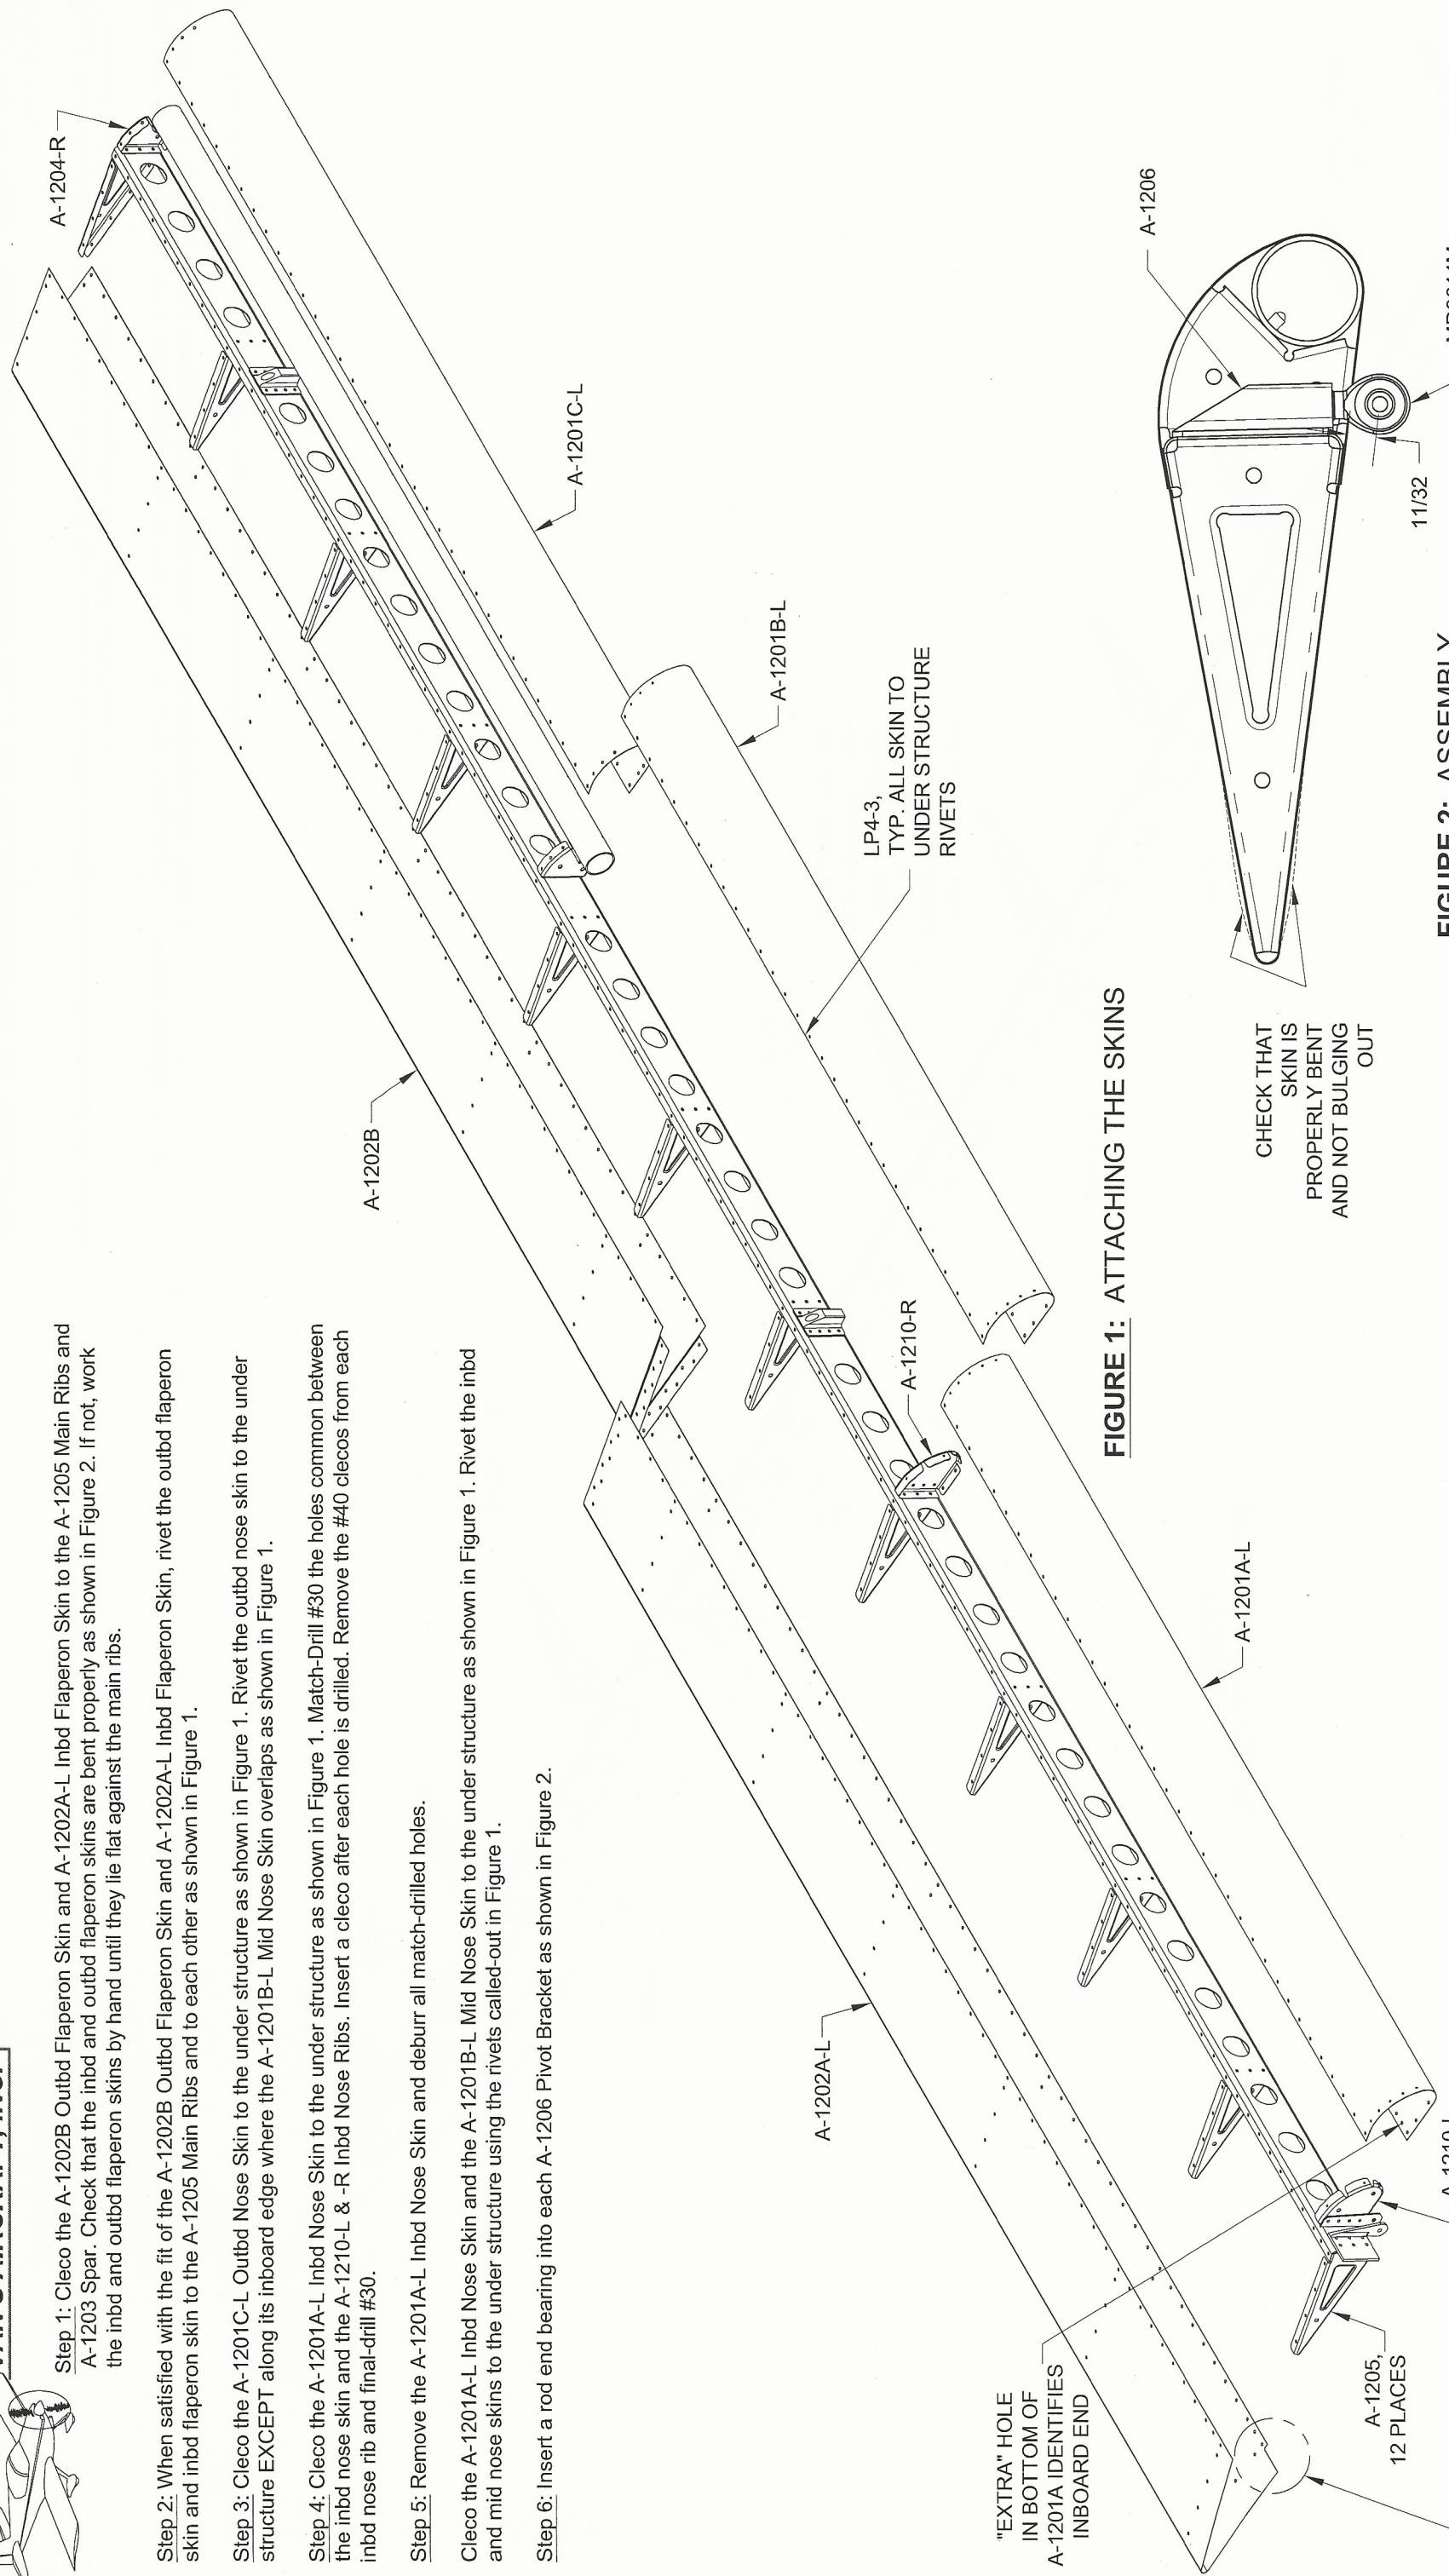

FIGURE 1: ATTACHING THE SKINS
Step 2: When satisfied with the fit of the A-1202B Outbd Flaperon Skin and A-1202A-L Inbd Flaperon Skin, rivet the outbd flaperon skin and inbd flaperon skin to the A-1205 Main Ribs and to each other as shown in Figure 1.
Step 3: Cleco the A-1201C-L Outbd Nose Skin to the under structure as shown in Figure 1. Rivet the outbd nose skin to the under structure EXCEPT along its inboard edge where the A-1201B-L Mid Nose Skin overlaps as shown in Figure 1.
Step 4: Cleco the A-1201A-L Inbd Nose Skin to the under structure as shown in Figure 1. Match-Drill #30 the holes common between the inbd nose skin and the A-1210-L & -R Inbd Nose Ribs. Insert a cleco after each hole is drilled. Remove the #40 clecos from each inbd nose rib and final-drill #30.
Cleco the A-1201A-L Inbd Nose Skin and the A-1201B-L Mid Nose Skin to the under structure as shown in Figure 1. Rivet the inbd and mid nose skins to the under structure using the rivets called-out in Figure 1.